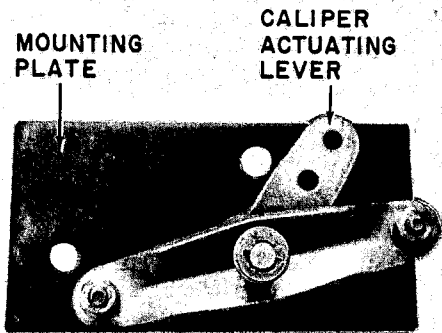

Fig. 3
1. Mount the M-30 brake calipers to the transaxle mounting plate as shown in Fig. 3, if not already mounted.